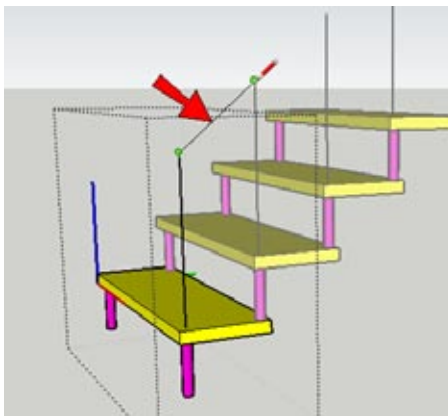

Figure 7-102
7. To add a rail to the staircase, open the bottom tread component for editing, and use the Line tool to create a Follow Me path. Figure 7-102 shows a vertical path starting just above the support, connected to a diagonal path that meets the vertical path from the tread above.